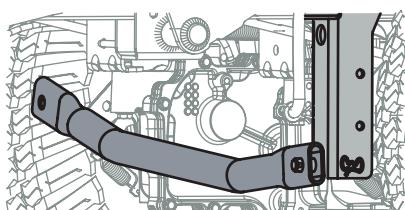

Figure 45
- b. Remove the bow-tie cotter pin on the left side of the bar, connecting the bar with the bracket on the frame (Figure 45).